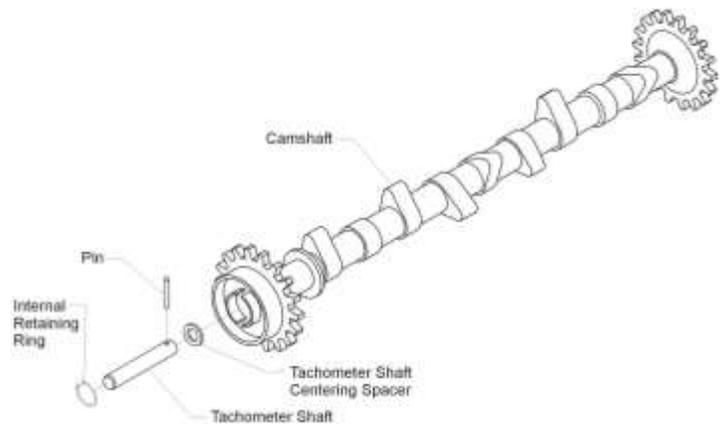

Figure 73
- (1) Install a new pin in the tachometer shaft.
- (2) Install the tachometer shaft (Figure 73) with a new tachometer shaft centering spacer on the camshaft assembly.
- (3) Install a new internal retaining ring on the tachometer shaft with the sharp edge of the retaining ring out and the opening in the retaining ring 90° from the gear openings.